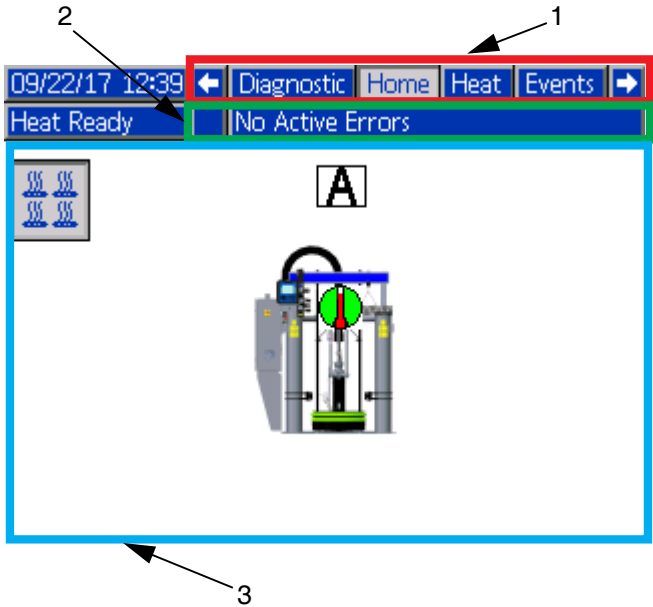

FIG. 4: Display Screen Components
FIG. 4 calls out the components shown on each display screen, including navigation (1), status (2), and general informational (3).